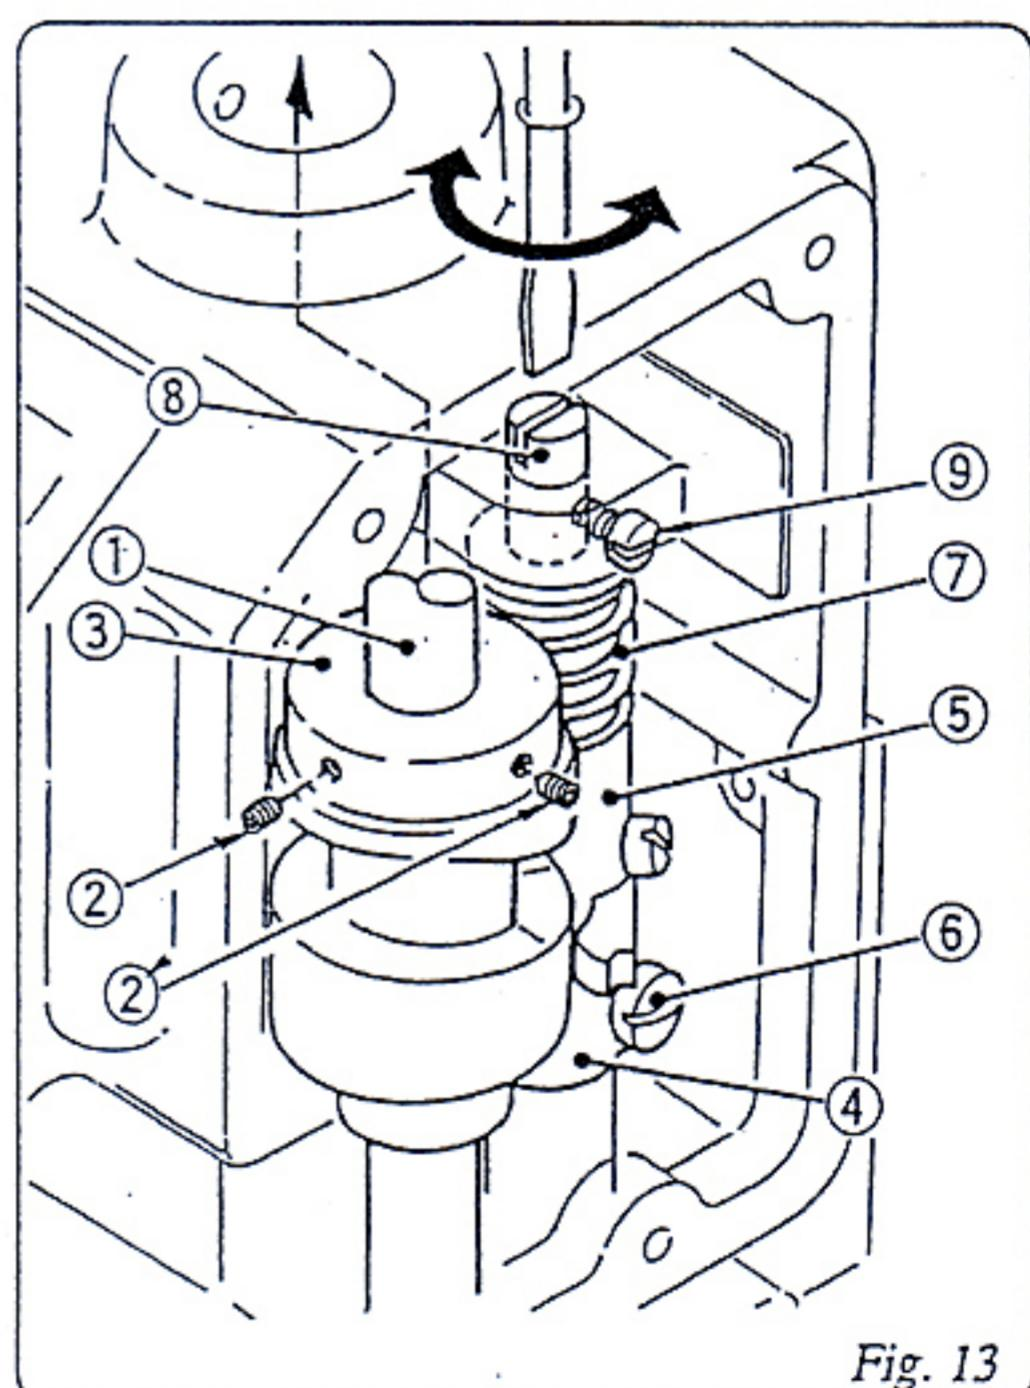

Fig. 13
Adjust Looper Drive Cam ③ When necessary as follows:(Refer to Fig.13.).
- Apply the Screws ② and ② on the taper of Main Shaft ①.
- Adjust Arm (B) ④, so that Looper Drive Cam ③ and Arm (A) ⑤ move smoothly. After adjusting, fix the Screw ⑥ tightly.
- The clearance between Looper Drive Cam ③ and Arm ⑤ is effected by Spring ⑦. Loosen Screw ⑨ and turn Spring Supporter ⑧ to adjust the pressure of Spring ⑦. After adjusting, tighten the Screw ⑨ to fasten Spring Supporter ⑧.
- ① Main Shaft 241102
- ② Screw 15/64S28524
- ③ Looper Drive Cam 243012
- ④ Looper Rocker Shaft Arm (B) 243081
- ⑤ Looper Rocker Shaft Arm (A) 243071
- ⑥ Screw for Looper Rocker Shaft Arm (B) 11/64S40009
- ⑦ Spring 243131